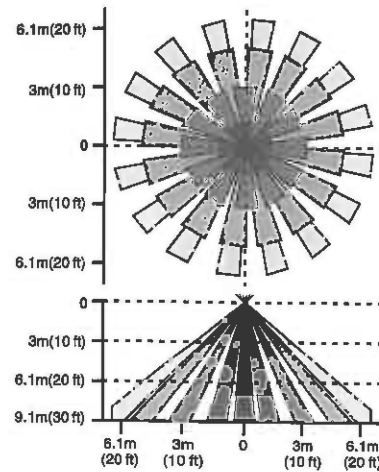

Fig1 Sensor Coverage Area
- 15to 20 ft (4.57 to 6.1 m) radial coverage overlaps area lit by a typical high bay fixture (refer to Fig1) .